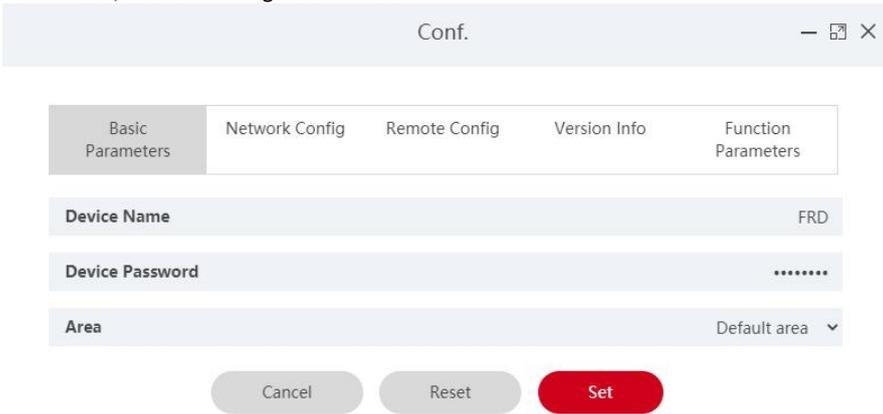

Figure 5-17
Step 2: Click the device to be configured"  "to enter the configuration interface, it is composed of Basic Parameters, Network Config, Remote Config, Version Info and Function Parameters, as shown in Figure 5-17 below.